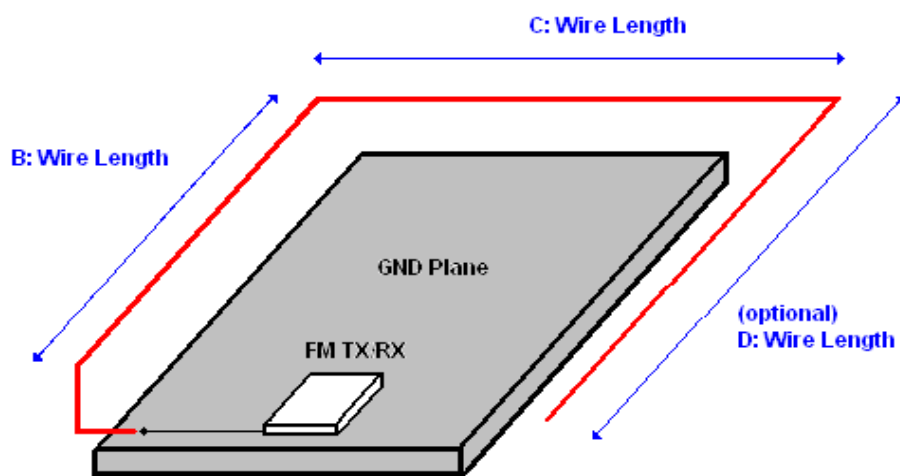

Figure 14. U-Shaped Stub (Wire) Antenna—Orthogonal View
- Route the antenna as a "U" shape as shown in Figure 14.